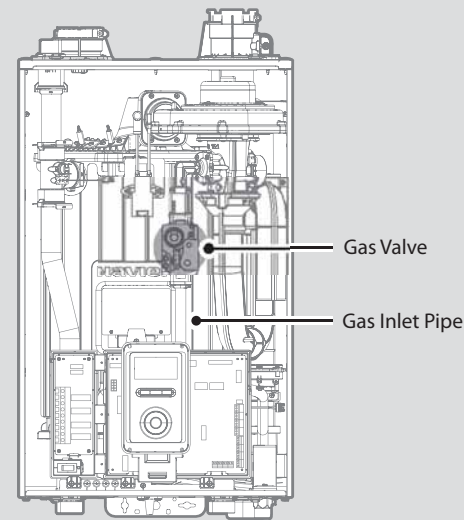

Figure 2. NFB-H Series Internal Components
4. With the internal components exposed, locate the gas inlet pipe and the gas valve, as shown in Figure 2.